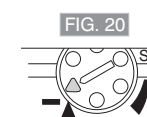
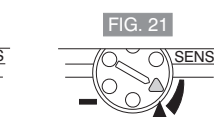

FIG. 20
FIG. 21
- The motion sensor's sensitivity adjustment controls "detection distance". It can be adjusted to compensate for seasonal variations in temperature and to reduce unwanted triggering. The optimum sensitivity can be achieved by setting the (**SENS**) control knob initially to its mid position and then adjusting the control knob clockwise to increase (up to 12 meters - FIG. 21) the detection distance or anti-clockwise to decrease (down to 3 meters - FIG. 20) the detection distance.